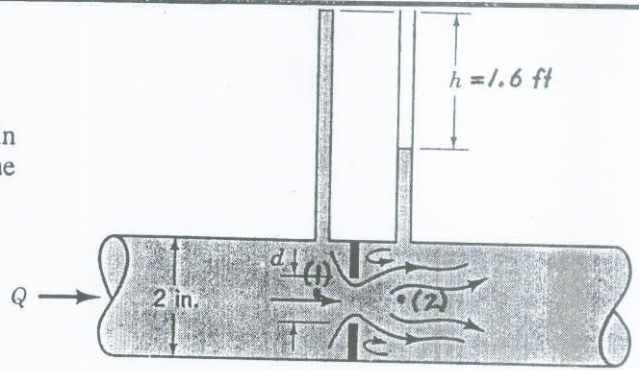

FIGURE P8.123
8.123 Water flows through the orifice meter shown in Fig. P8.123 at a rate of 0.10 cfs. If  $d = 0.1$  ft, determine the value of  $h$ .
8.124 Water flows through the orifice meter shown in Fig. P8.123 such that  $h = 1.6$  ft with  $d = 1.5$  in. Determine the flowrate.